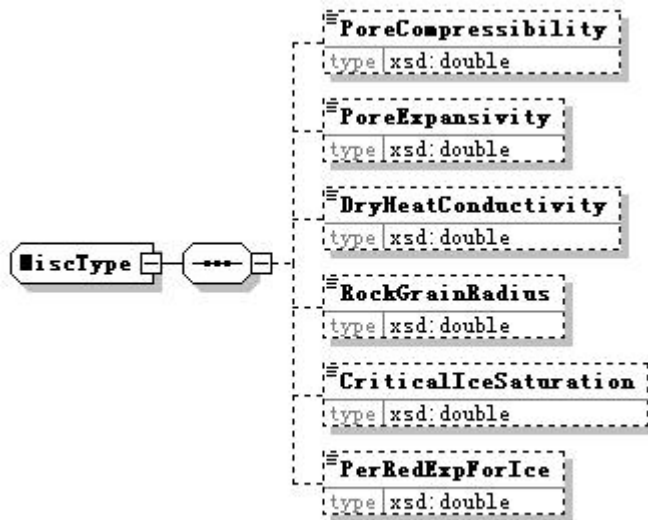

Figure 5. MiscType
- **Misc**[ghml:MiscType] – Miscellaneous material data (Figure 5).